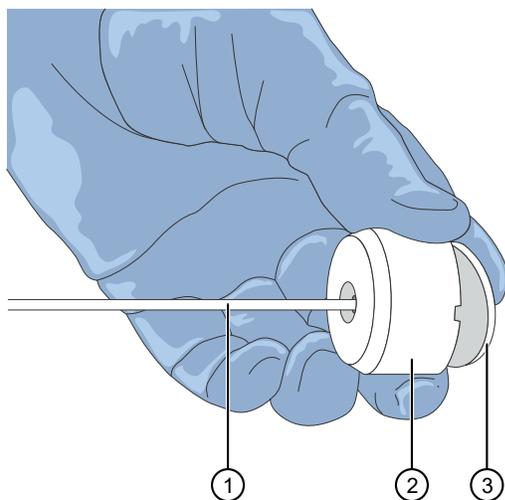

Figure 61 Components of the reagent buffer supply line and filter.
2. Carefully remove the filter from the end of the filter body (see Figure 61).